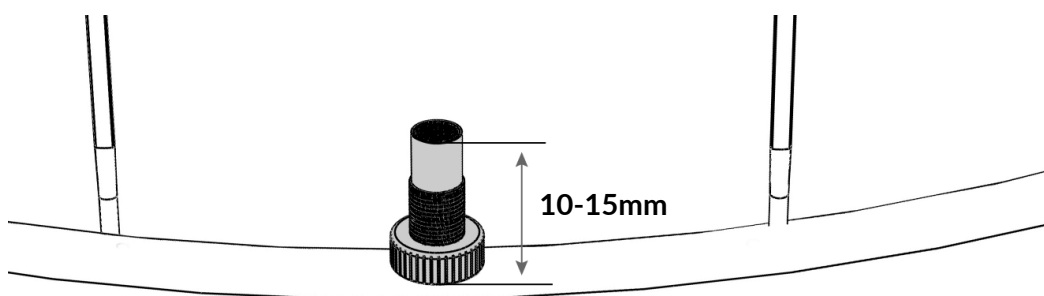

Figure 20: valve height guideline
3. The valve stem must have a correct length, which differs per rim. A guideline for choosing the correct valve height is given in Figure 20. E.g., for the GRAVAA Gravel x DT Swiss GRC500 wheelset, inner tubes with a valve stem of 60mm suit well.